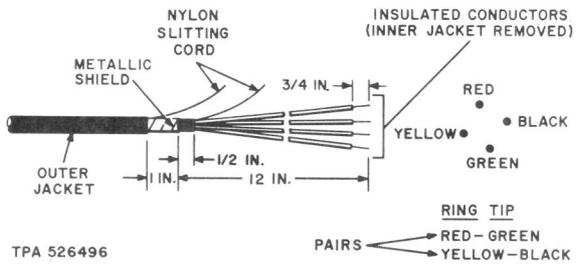

Fig. 2—Preparation of B Service Wire or F-44541 Service Wire
3.03 To terminate service wires in the K-type cable closure, pull slack from the service wire and mark the outer jacket 1/4 inch below the AT-7796X Connector. Prepare the ends of B Service Wire or F-44541 Service Wire and E Buried Wire as illustrated in Fig. 2 and 3, respectively.
service wire and cable pair even, approximately 1-1/2 inches below the wire bracket. Skin the insulation from the service wire conductors (Fig. 2 and 3) and connect the cable pair conductors to the service wire conductors with B Wire Connectors. Where 700-type connectors are used, the insulation must be removed from E Buried Wire (see 1.06).